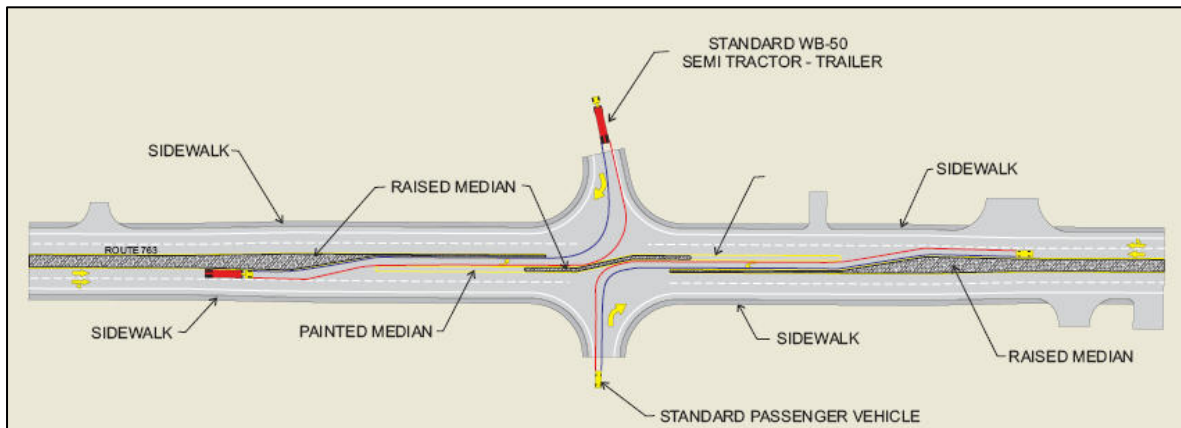

Figure 14 – Custom Truck Movements
- Designed to accommodate custom truck movements (See Figure 14)